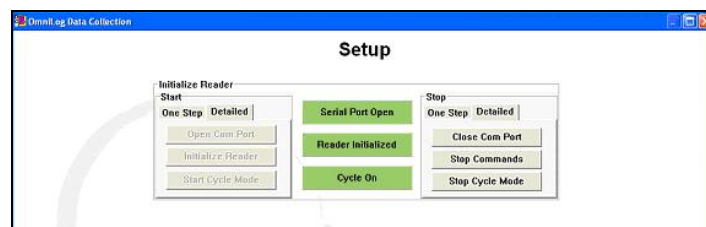

Figure 18 Detailed Stop in the Setup Window
5. The Edit user can select the Detailed tab in the Stop section (Figure 18).